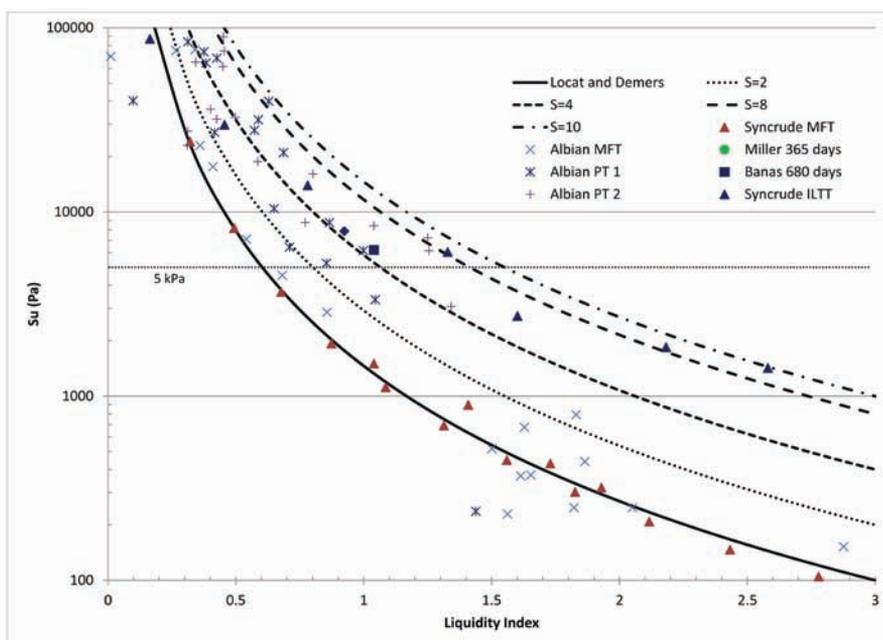

Figure 4. Sensitivity of oil sands fine tailings.
Directive 074 requires Su values in the range of 5-10 kPa or greater. Therefore, the available corresponding data within the range of LI from 0 to 3 is presented in Figure 4. It is evident that strength gain of the fine tailings with polymer/chemical addition to achieve the required Su values of 5-10 kPa is possible, but at much higher water contents. However, this has implications on storage efficiency of the fines deposit (kg fines/m^3). At higher water contents, a chemically modified deposit will have lower storage efficiencies and thus require larger disposal areas (as compared to untreated fines). For mining operations that have limited lease space, there may be operational challenges with managing the larger volumes. Figure 4 also contains lines representing sensitivity (S) as calculated by $S = \text{Su peak} / \text{Su remolded}$. The sensitivity lines are based on the remolded Su relationship of Locat and Demers (1988). From Figure 4, it can be deduced that the chemically modified fine materials (PT and ILTT) may exhibit sensitive behavior based on their reported strengths. Mitchell and Soga (2005) would classify deposits with $S = 4-8$ as very sensitive and $S = 8-16$ as slightly quick clays. The dewatering techniques currently under investiga-